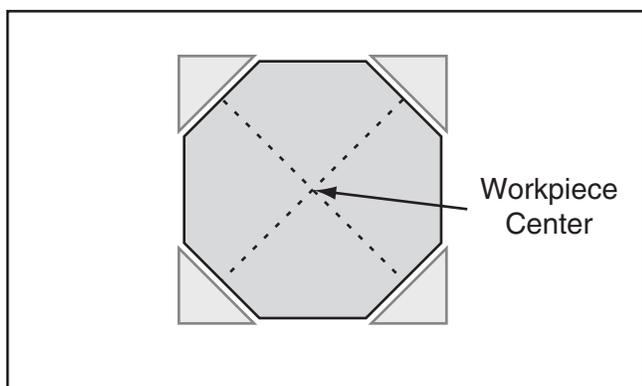

Figure 37. Corners of workpiece removed.
5. If your workpiece is over 2" x 2", cut corners off workpiece lengthwise to make turning safer and easier (see **Figure 37**).